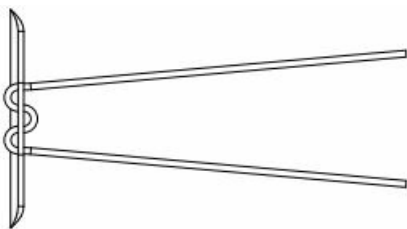

Figure 1.
- The No Spark Mow Ball can be used in conjunction with the existing trimmer plate. Install the trimmer line using either method shown below (Figure 1 and Figure 2). Install front cover.